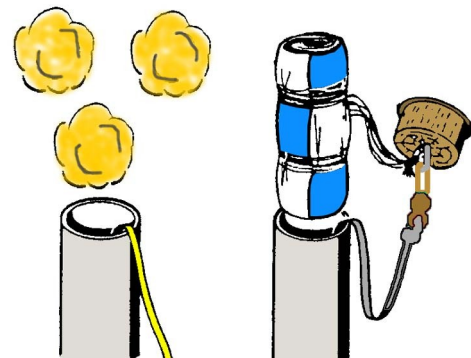

Figure 12
- **Step 28** As shown in Fig. 12, insert about 2" of your preferred flameproof recovery material into the top of the body tube, pushing with a pencil or a wood dowel until it is just above the motor mount. We prefer shredded cellulose insulation over the more traditional wadding sheets. **DO NOT PACK THIS MATERIAL TIGHTLY!** This material has to blow out with the parachute and the shock chord to ensure complete deployment. It is meant to provide a protective gas seal between the motor and the parachute. If it is too tight in the tube, you will suffer recovery failure and likely a damaged model.